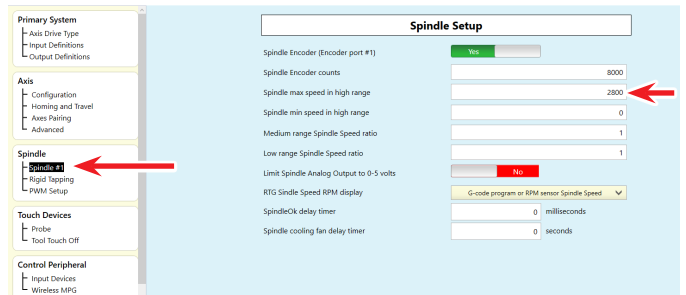

FIGURE 12
C. Click on Spindle #1 and you will see that the “Max speed at high range” is set to 2800 (see Figure 12).